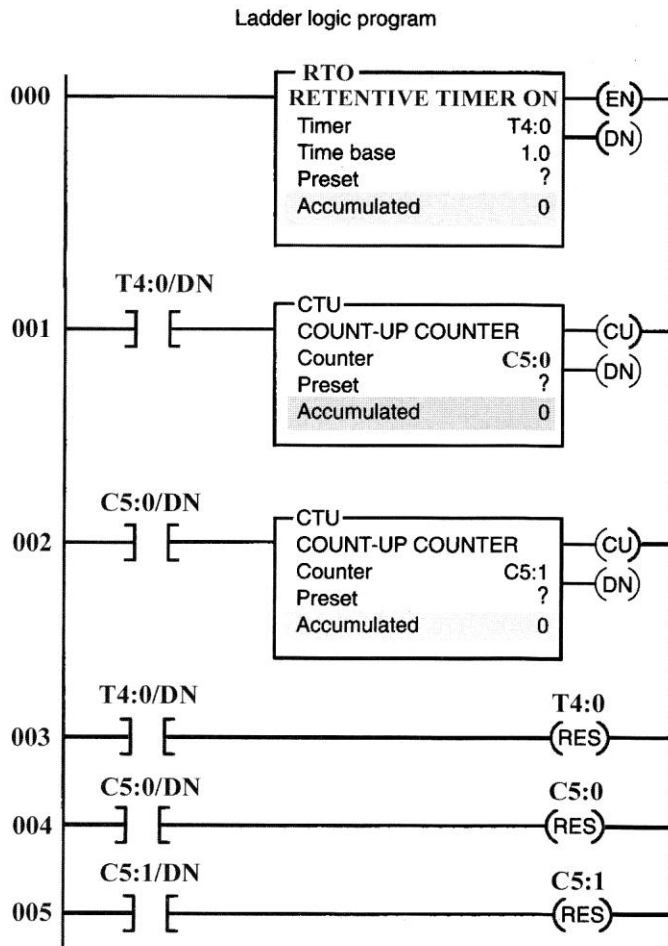

Figure 8-6 Clock program for question 24.
- 24-1. The 24-hour clock program of Figure 8-6 uses 24-1.____